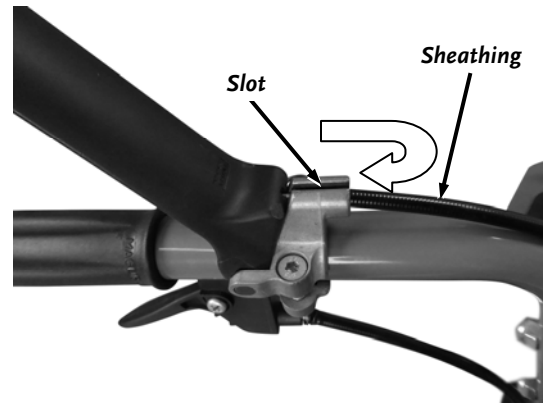

Figure 9
9. Pull the Traction Drive Cable Sheathing to the front to expose the Braided Cable and insert the Braided Cable into the Bracket slot (**Figure 9**). Push the Sheathing into the hole at the front of the Traction Drive Handle Bracket.